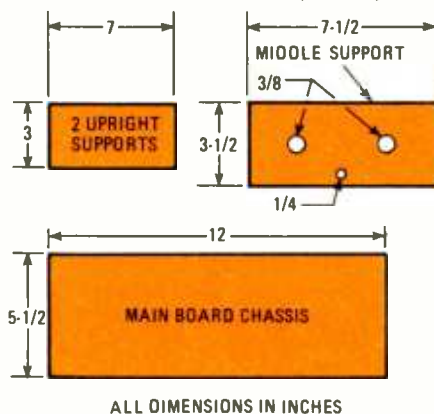

Fig. 3. These are the dimensions of both wooden supports, the panel, and the chassis. They are to be predrilled according to the text.
**Wood Work.** The main board measures 5-1/2 x 12 inches (see Fig. 3). The prototype has a discarded piece of walnut purchased from a souvenir store as a base. Scrap wood pieces may be found at hobby stores if you haven't any yourself, and, of course, any type of wood will do. Drill two 1/8-inch holes into it to accommodate